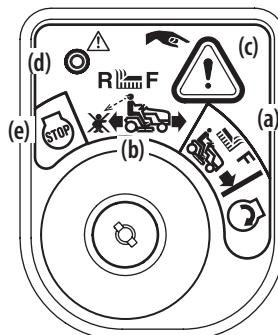

Figure 19
2. Turn the key from the NORMAL MOWING (if equipped) (a) position to the REVERSE CAUTION MODE (if equipped) (b) position of the ignition module. See Figure 19.
3. Press the REVERSE PUSH BUTTON (if equipped) (c) at the top, right corner of the ignition module. The red indicator light (d) at the top, left corner of the ignition module will be ON while activated. See Figure 19.